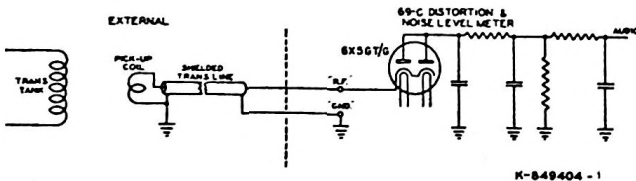

Figure 2—R-F Rectifier
2. An input circuit for the distorted signal from the equipment under test. This includes a rectifier for demodulating an r-f signal when desired, a selector switch marked "INPUT," a source of voltage for standardizing the gain of a voltage amplifier, and three level controls—coarse, medium and fine, as shown in Figures 2 and 3.